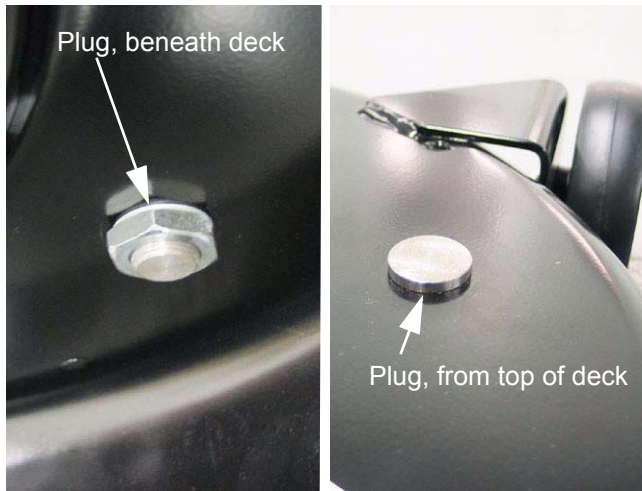

Figure 2.16
- 2.16. Decks that are not equipped with the deck-wash system will have a plug secured into the deck-wash port by a nut. See Figure 2.16.